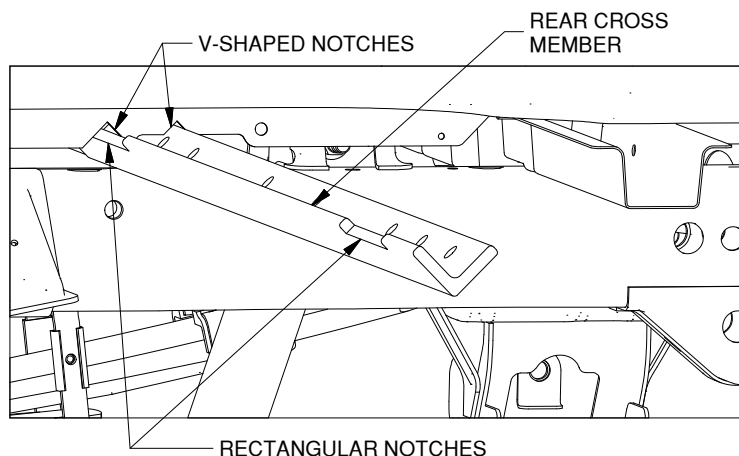

Figure C1: Looking into driver side wheel well.
- 1. Place rear cross member.** Locate the rear cross member and the area where the V-shaped notches were cut. Orient the rear cross member so the leg with the rectangular notches is toward the front of the truck. Slide the rear cross member through the V-shaped notches and between the bed and the frame until it spans the driver and passenger frame rails, as shown in Figure C1. Rotate the rear cross member so the leg with the rectangular notches is vertical. The leg with the holes should be flat against the top of the frame toward the rear of the truck.